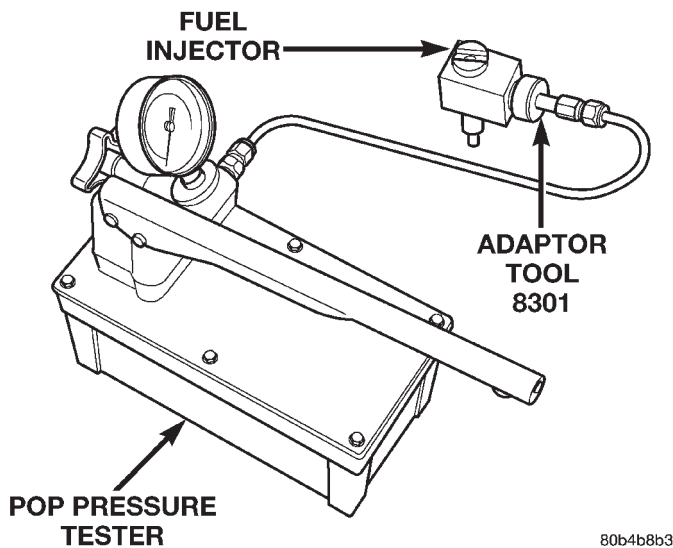

Fig. 30 Fuel Injector Tester and Adapter Tool
(3) After injector has been removed, obtain bench-mount fuel injector tester OTC® (SPX®) part number 4210 (Fig. 30) (or equivalent). Install Special Tool number 8301 (Fuel Injector Adapter) to 4210 tester. Install fuel injector into 8301 adapter. Be sure tip of adapter tool 8301 is aligned to inlet hole at side of